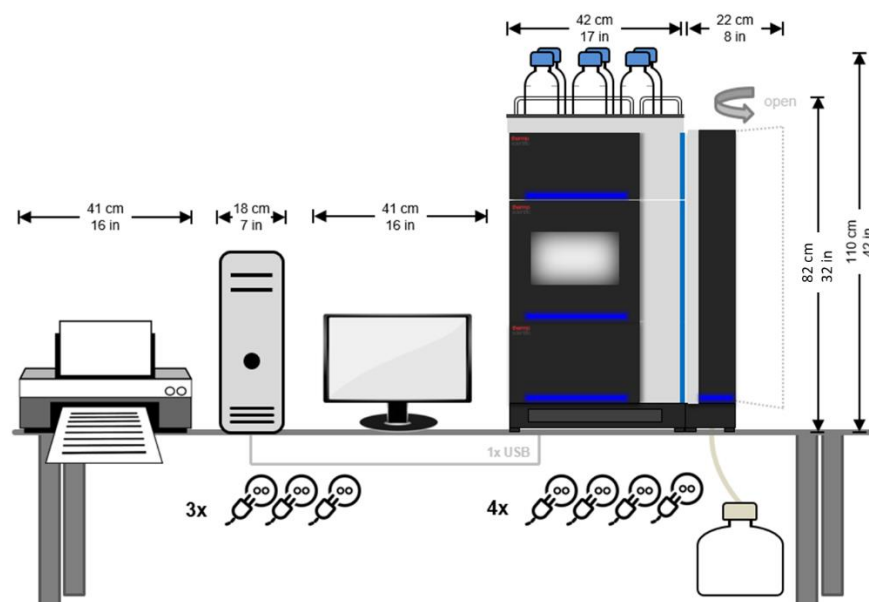

Figure 1: Recommended layout for a stand-alone Vanquish (U)HPLC System with data system
Figure 1 shows the recommended layout for a stand-alone Vanquish (U)HPLC System with a Vanquish detector, column compartment, autosampler, pump, and system base with solvent rack. Allow at least 160 cm (63 in) for the installation of the shown setup, including the data system and printer.